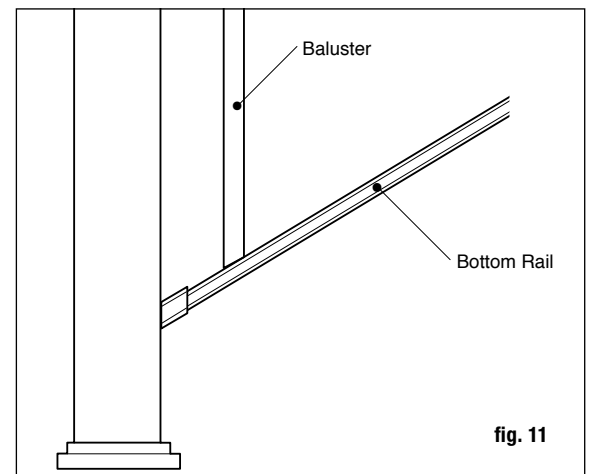

fig. 11
**Step 8** Place a baluster into each routed hole in the bottom rail. Make sure baluster is fully seated in rail (fig 11).